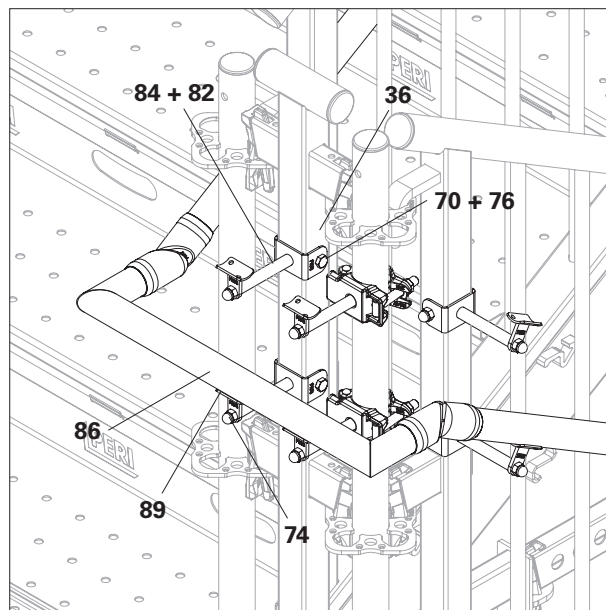

Fig. D2.04
1. Fit Handrail Support PESG (84) with Handrail Bracket sym PEBS (82) to the frame of Guardrail PPG 25 (36).
2. Attach the Handrail Tube Staireye PEHE (86) with Handrail Joint PEHJ (87) to the previous handrail tube, align and place on the handrail bracket.
3. Rivet the Handrail Tube Staireye PEHE (86) to the handrail bracket (82) using a 6.0x10 steel rivet (89).
4. Screw the nut (74) tightly onto the handrail support. (Fig. D2.04)